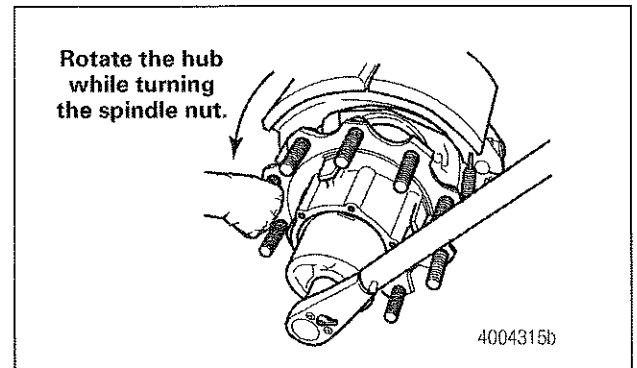

Figure 11
8. Tighten the spindle end nut to 810-850 lb-ft (1100-1150 N•m) while rotating the wheel and hub in a **COUNTERCLOCKWISE** direction. Do not back off the nut after tightening. Mark the nut location relative to the spindle. Figure 11. **ⓘ**